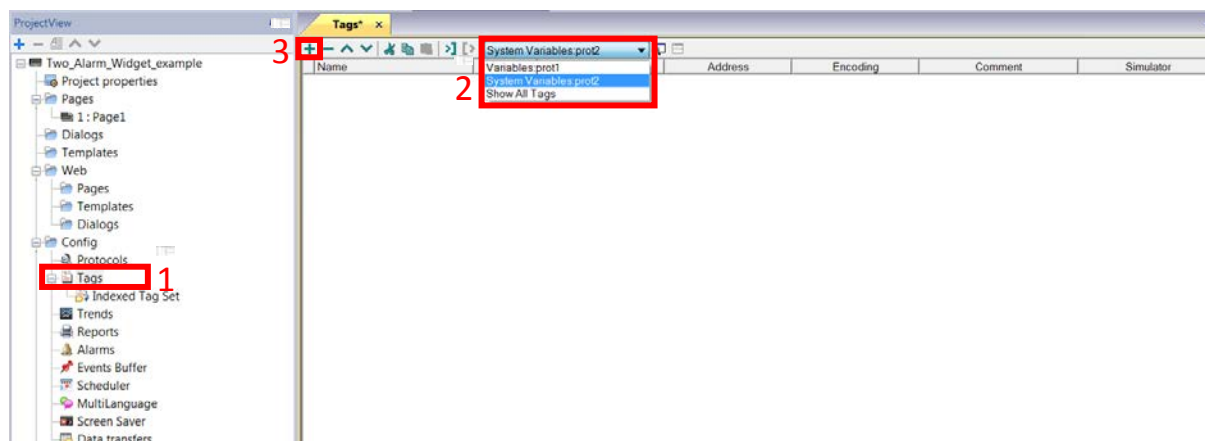

Figure 2 – Creating a new Tag
- 4.5. Select the icon to choose where to save the recipe file, as shown in figure 2. "SD card" is not available for the CP600-eCo series. 6
- 3.4. Double click the Tags icon in the Config folder to open the Tag editor. Select the 'System Variables' protocol that was created in the preceding steps from the drop down menu in the Tags toolbar (Figure 2, step 1 and 2).
- 3.5. Click the + icon at the upper-left to create a new tag. (Figure 2, step 3).
- 4.5. Select the icon to choose where to save the recipe file, as shown in figure 2. “SD card” is not available for the CP600-eCo series.